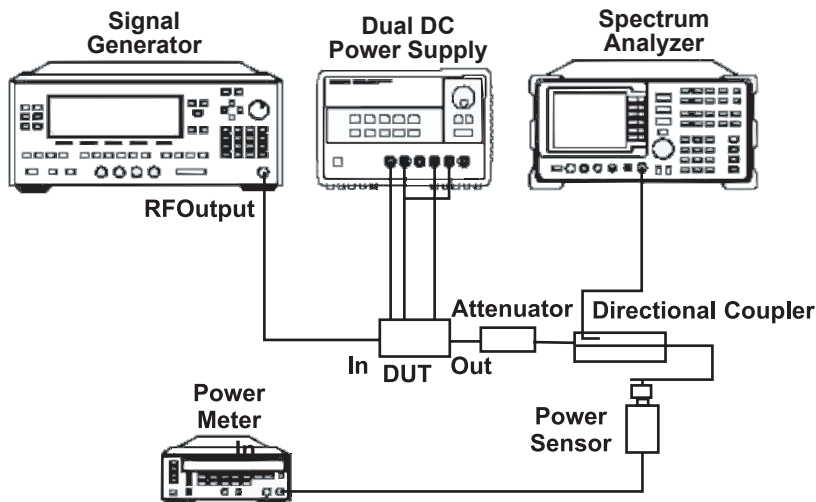

Figure 3: Test Setup Diagram
1. **Figure 3** shows minimum equipment required for proper power amplifier operation.
1. Connect DUT according to the setup shown on Figure 3. Do not turn on DC power supply before connecting DUT to RF input and output cables (make sure that RF output of a signal generator is OFF before connecting RF cables to DUT).